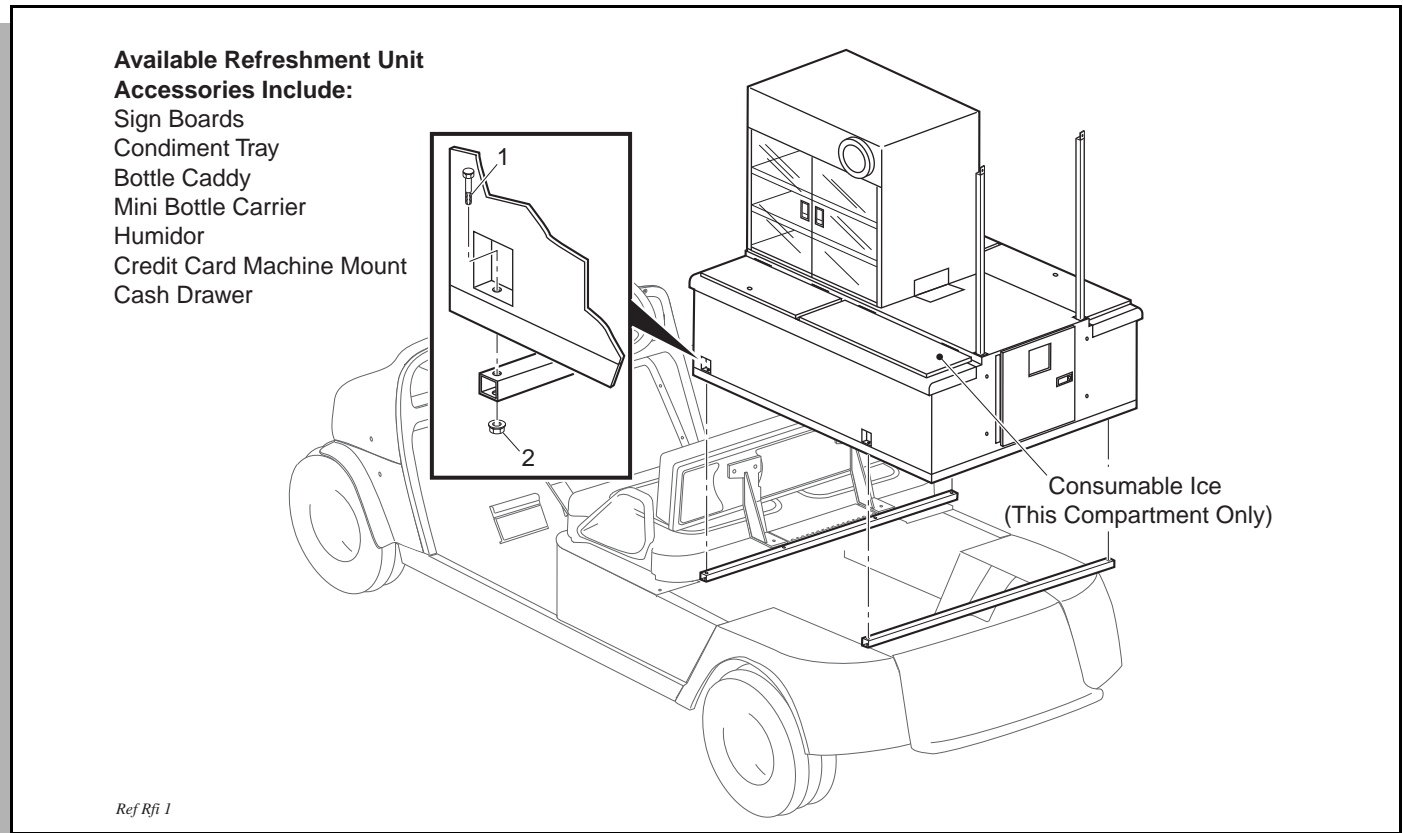

Fig. 1 Mounting the Refreshment Unit
The vending unit is equipped with two beverage compartments, a cold storage compartment, a consumable ice compartment, a food display cabinet, two cup dispensers and a trash bin. Available accessories are listed in illustration (Ref Fig. 1 on page 2).
Orient vending unit so that door on unit will be facing the rear of the vehicle when unit is placed on the mounting frame (Ref Fig. 1 on page 2). Using a forklift, lift the refreshment unit and pallet level with the bed of refreshment vehicle. Lift the refreshment unit off of the pallet and carefully place it onto the mounting frame on vehicle. Align the four mounting holes on refreshment unit with corresponding holes on vehicle mounting frame. Secure unit to frame with four 5/16 - 18 X 1 1/4" bolts (item 1), eight 5/16" flat washers (item 2) and four 5/16 - 18 lock nuts (item 3). Tighten hardware firmly.
Consumable Ice Compartment - The consumable ice compartment, located in the rear driver side of the beverage container is to be used for consumable ice only (Ref Fig. 1 on page 2). This compartment is equipped with its own drain per FDA requirements and should not be used for canned goods or other products.